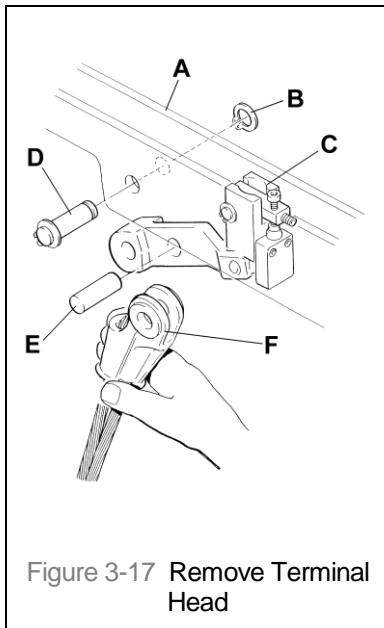

Figure 3-17 Remove Terminal Head
- 1) Working from a scaffold or lifting platform, remove the Retaining Ring (B) and Load Limiter Pin (D) from the Terminal Head Crossbar (A). Let the Load Limiter (C) rotate downward and remove the Terminal Head (F) from the Lever Support/Load Limiter Assembly (C) by pulling out the Terminal Head Pin (E). (see Figure 3-17). **Note:** the Load limiter is standard on the 7½T, optional on the 5T and 10T trolley hoists.